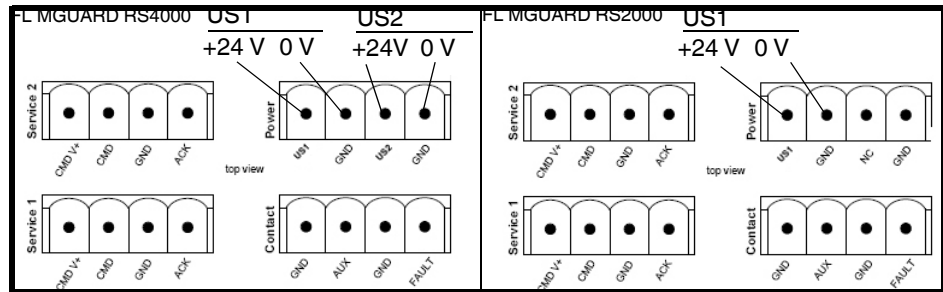

Figure 1-4 Connecting the supply voltage
- Insert the screw terminal blocks into the intended sockets on the top of the MGUARD (see Figure 1-4).